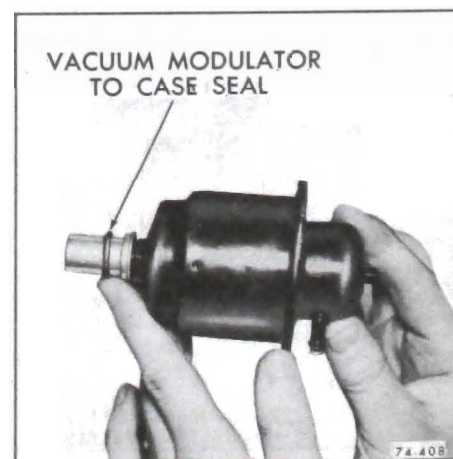

Figure 74-352
2. Install case to vacuum modulator oil seal. See Figure 74-352. Install modulator into case.